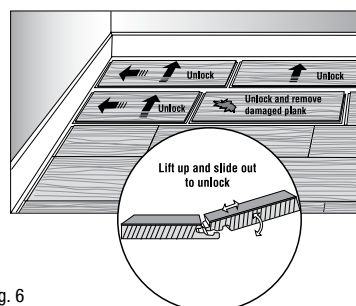

Fig. 6
2. Remove the boards by unlocking them (Fig. 6). Number the boards, on the back, so they may be repositioned later. You can work in either direction, carefully working back to the damaged piece.